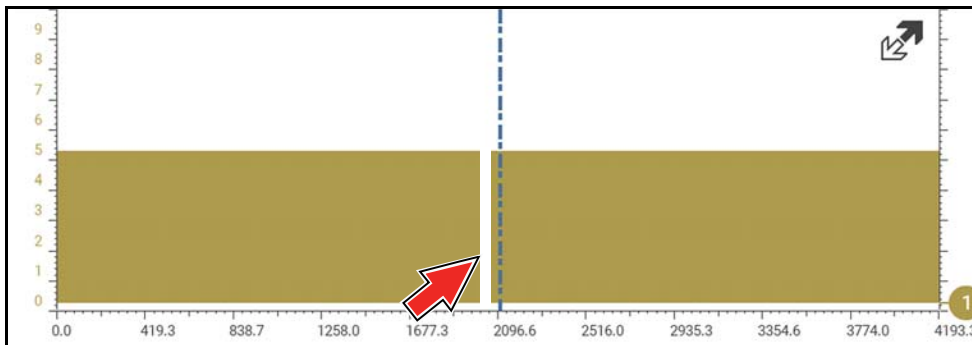

Figure 9-41
**2** - Pause data capture and then zoom out (this example is at 256X) to see more data and to possibly find a glitch (Figure 9-41). In this example the cursor has been placed on the right side of a glitch. The waveform is too compressed to see any detail, however the glitch stands out as a thin light area in the waveform.